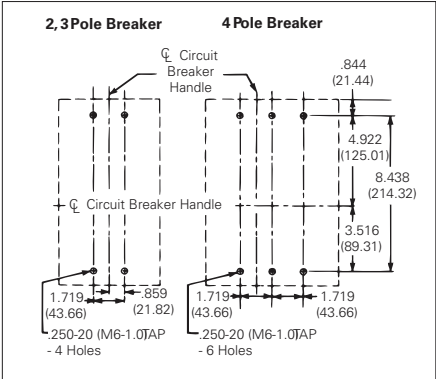

Figure 2-5 Circuit Breaker Mounting Bolt Drilling Plans
- For individual surface mounting, drill mounting panel using the drilling plan shown in Figure 2-5. For panel-board mounting, only load end support mounting